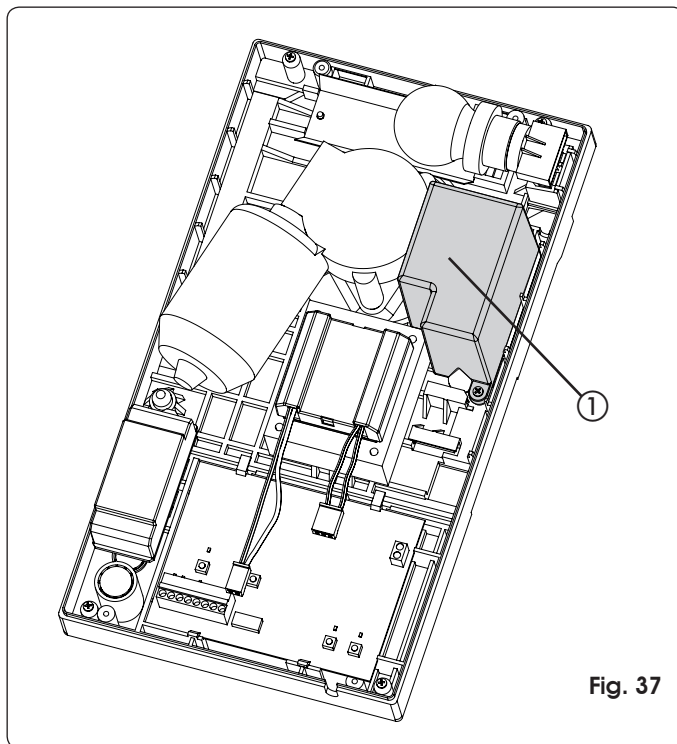

Fig. 37
The buffer battery kit will activate the automated system in the event of a power cut. The batteries are housed inside the operator (Fig. 37 ref. ①) fastened by a supplied screw. To install, consult the specific instructions.